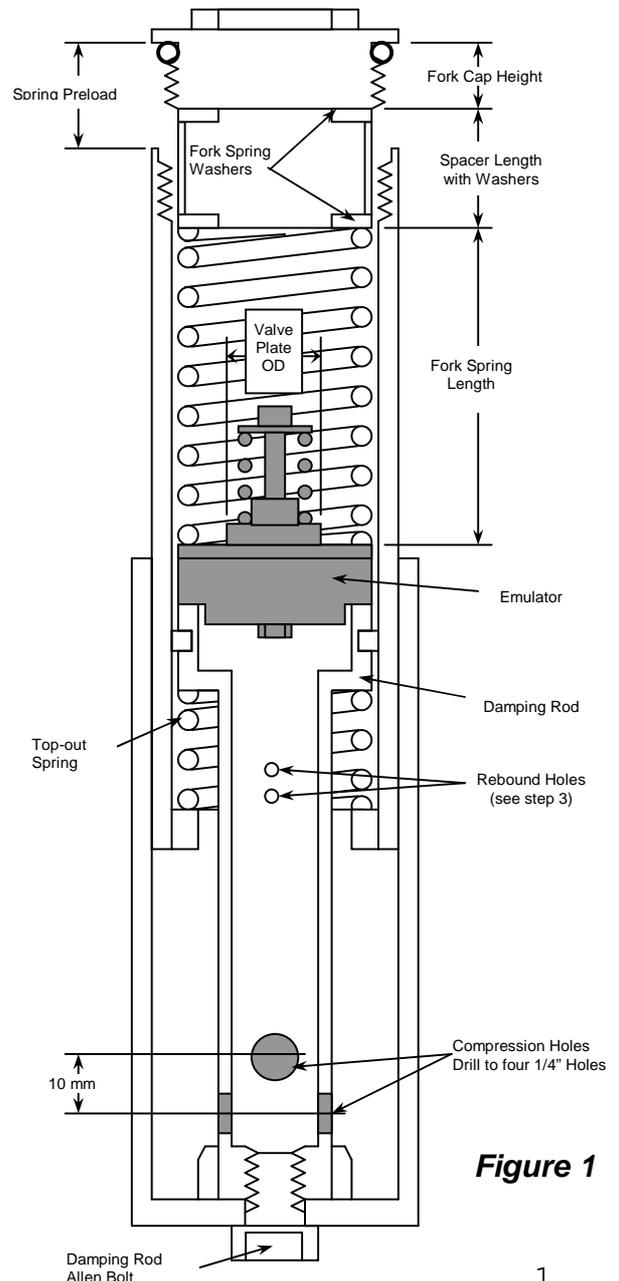

Figure 1
- 2 Drill the existing compression holes in the damping rod to 1/4 inch (6 mm) so you end up with four holes (2 sets of 2 holes) (figure 1).** When drilling new holes, space them axially (lengthwise) at 10 mm (7/16") increments. Each set of two holes must be perpendicular to the last set so as not to weaken the rod (figure 1). After drilling, chamfer and deburr the compression holes, inside and out. **Do not add or enlarge the rebound holes and leave their edges sharp.**
- a. Drop the Emulator down the tube. It sits on top of the damping rod with the Emulator Valve Spring facing up and is held in place with the main fork spring. Refer to figure 1. Visually check to make sure the Emulator is sitting squarely on top of the damping rod.
- c. Set the fork cap on the washer and determine the preload by measuring from the top of the fork tube to the sealing lip on the fork cap (see figure 1). This is a direct measurement of fork spring preload. Shorten the spring spacer tube to achieve the proper preload.